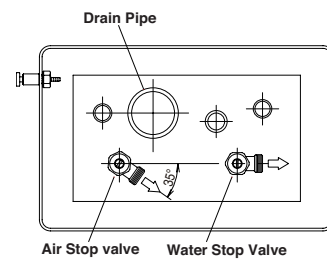

Fig.5-6 Direction of Water and Air Stop Valves
(1) Stop Valves Installations
- A.Install the water stop valve and the air stop valve to each supply pipe.The positioning of the stop valves are shown in Fig.5-6.